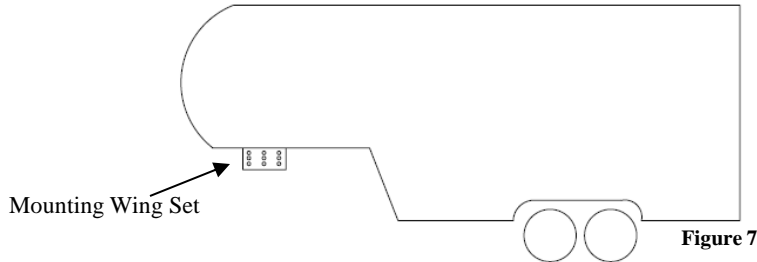

Figure 7
1. Before removing the original pin box, take note of the number of bolts used attaching the existing pin box to the mounting wing set. Cequent Performance Products recommends using at least the same number of bolts upon installation as removed from the original pin box. (Figure 7)